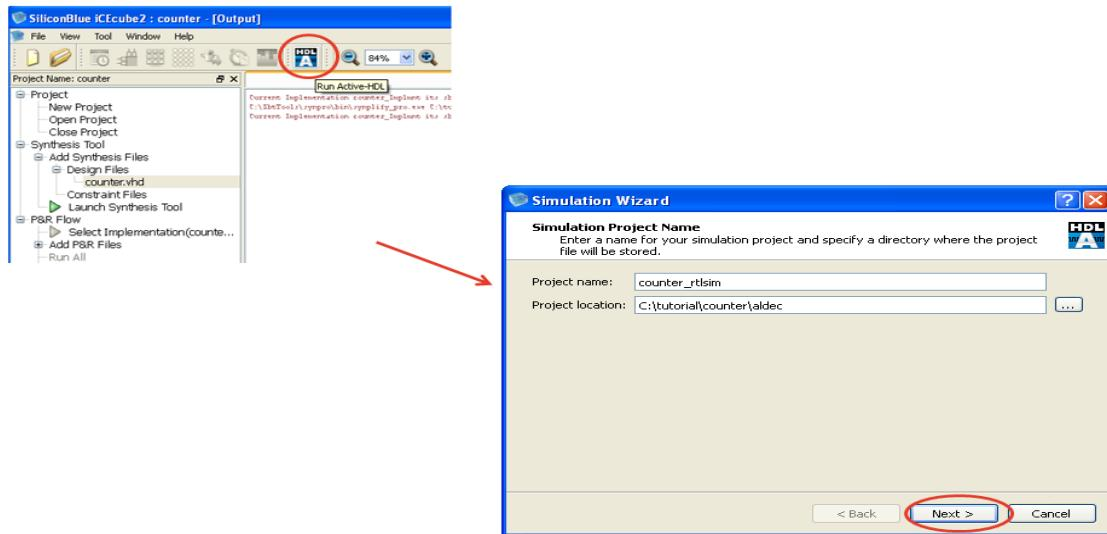

Figure 10-3: Launch Simulation Wizard and Specify Simulation Project name.
- After creating iCECube2 project and added the RTL design files, launch simulation wizard by selecting the “AHD” icon menu as shown in Figure 10-3. In the Simulation Wizard specify the simulation project name and simulation project location. The default project location is “Current iCEcube2 project directory\aldec”. Click on “Next” icon.